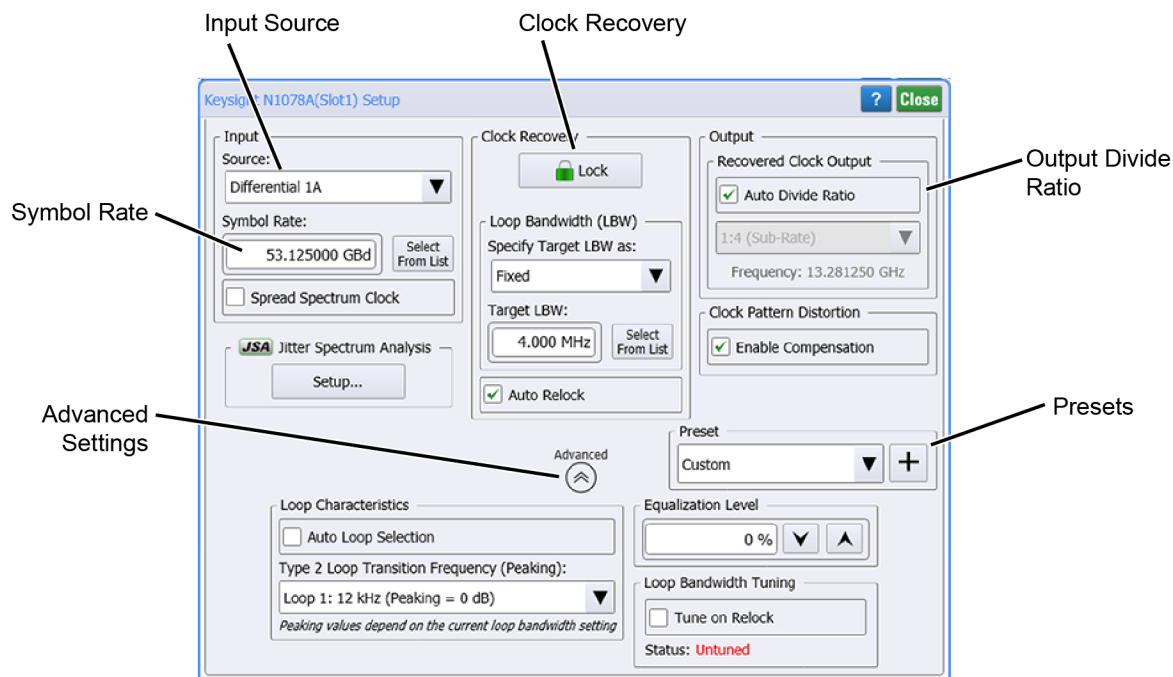

Figure 25. Clock Recovery Setup Dialog
6. Click **Setup** > **Modules** > **(Slot 6): Clock Recovery**. The Setup dialog is shown *Figure 25 on page 63*. The picture does not show settings required for this procedure.